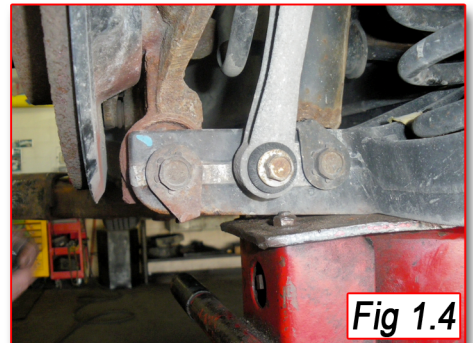

Fig 1.4
4. Support lower control arm during rest of procedure. (Fig 1.4)